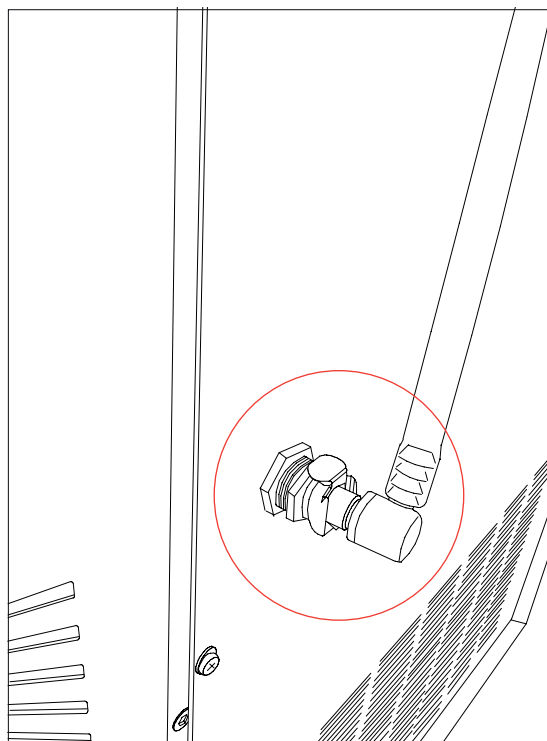

Figure 136. Fast coupling of the Sanosil® container.
- To remove the container for the disinfection medium, first loosen the rapid action hose (fig. 136). Then remove the container from the supports.